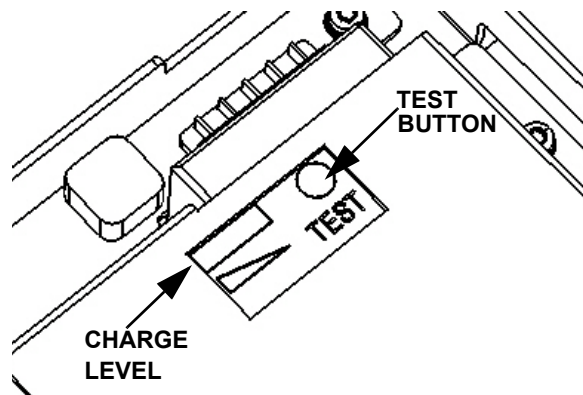

Figure 4-4. Test Button and Charge Indicator
- 7 Push and hold the white test button on the battery while observing the charge-level indicator (Figure 4-4). The charge level should be at least 25%. It should charge to between 75% and 100% after installation when AC power is applied to the counter.